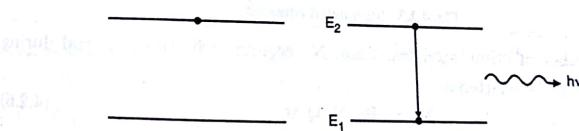

Fig. 4.2.2 : Natural or Spontaneous emission
- The excited atom in the state  $E_2$  may return to the lower state  $E_1$  on its own out of natural tendency to attain the minimum potential energy condition. During the transition the excess energy is released as a photon of energy  $h\nu = E_2 - E_1$ . This type of process in which photon emission occurs without any external agency is called spontaneous or natural emission. Fig. 4.2.2 represents natural emission and shows the transition.